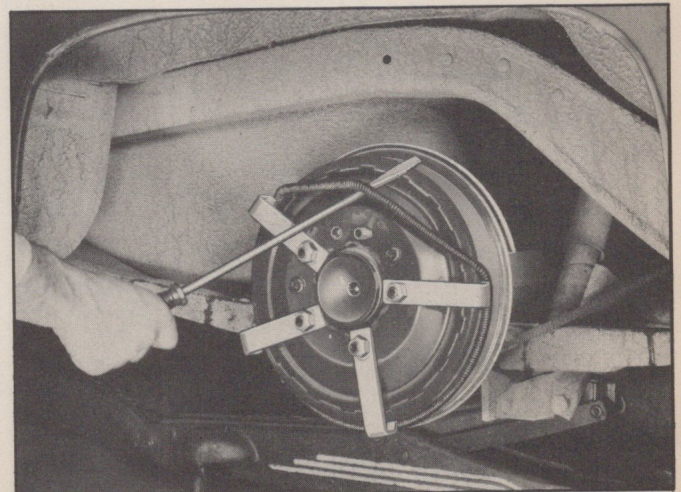

Fig. 7 Installing Drum Silencer Spring
3. Place spring on drum. See Fig. 7.